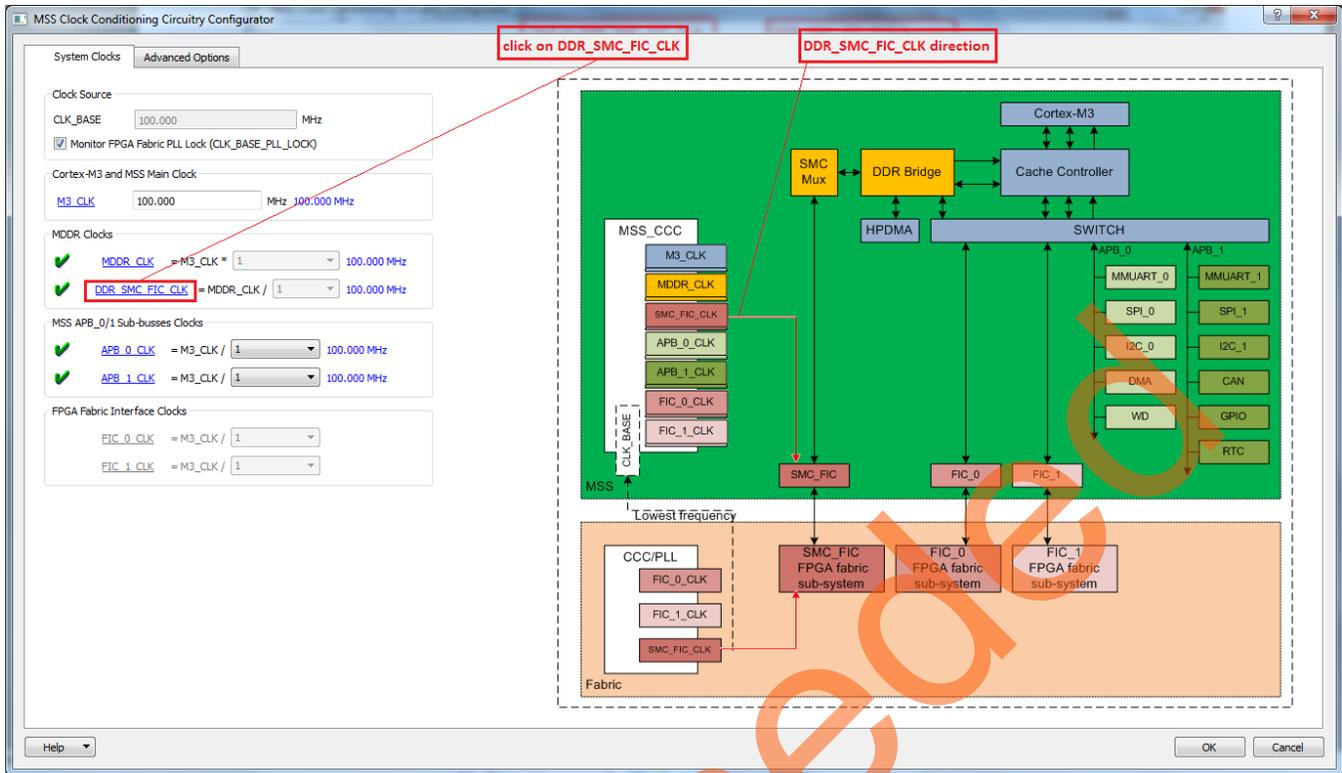

Figure 11. MSS Clock Configurator
4. Double-click the **MSS\_CCC** block and configure as shown in Figure 11.